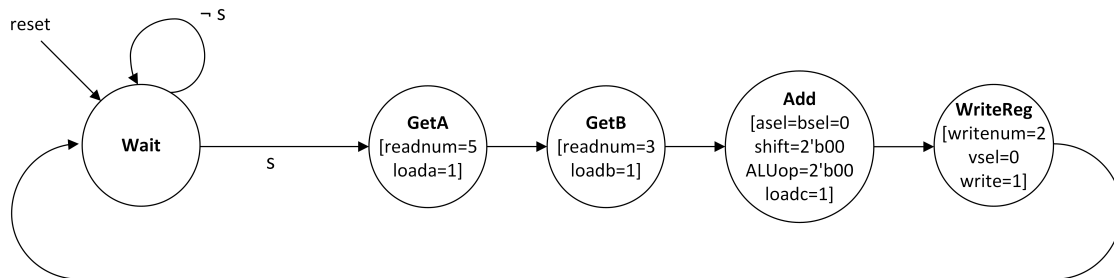
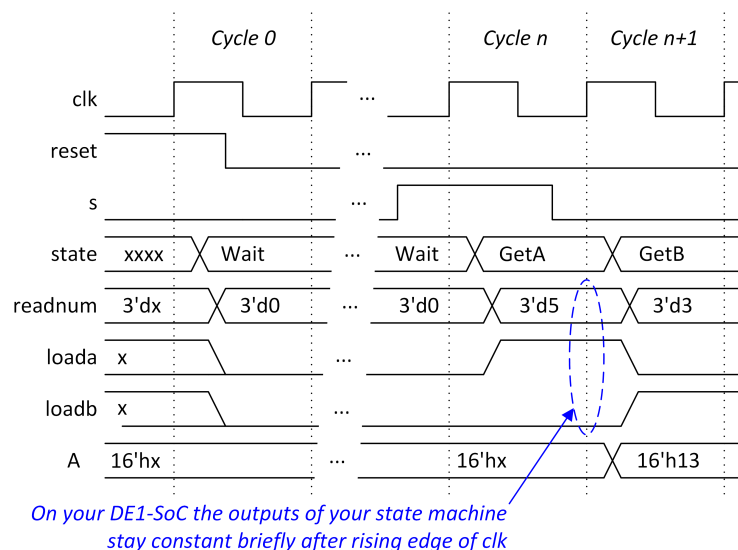
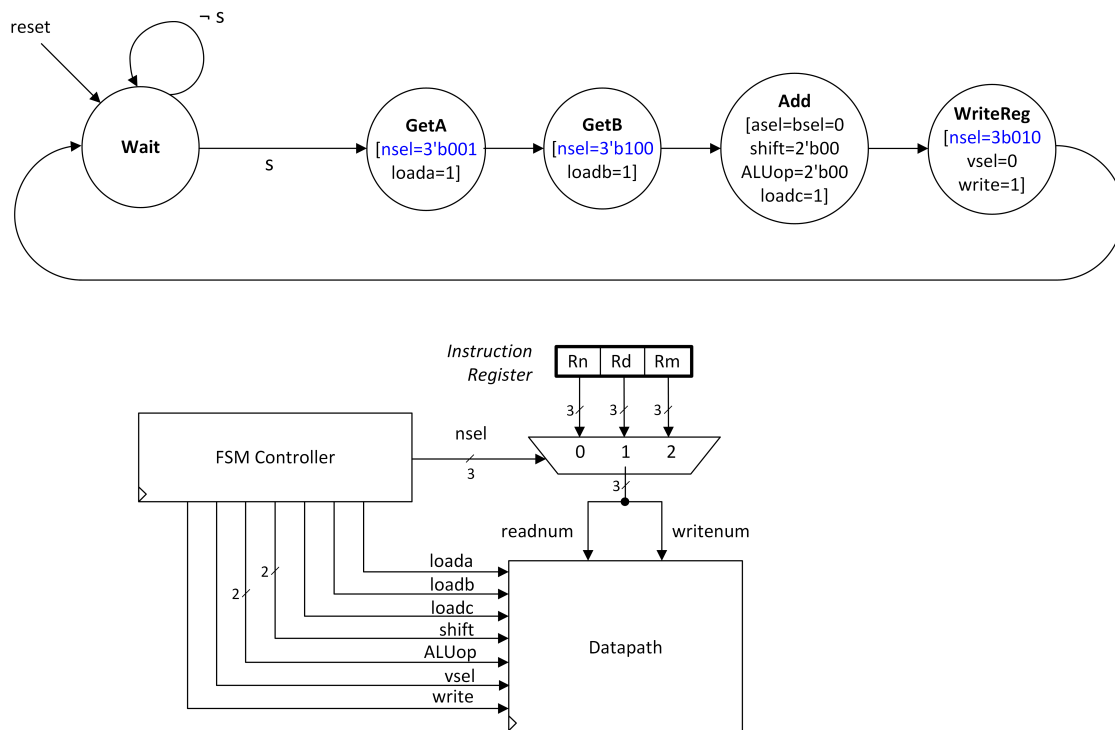

Figure 1: Finite state machine for “ADD R2, R5, R3” (do not build).
Figure 2: Register A updated on same rising edge of  $clk$  that state changes from *GetA* to *GetB*.
Figure 3: A partial instruction register (do NOT build).
To execute “ADD R2, R5, R3” on the datapath in Lab 5 requires four clock cycles and manually setting the control inputs. A faster way to set the control inputs is using a finite state machine. Figure 1 illustrates a **preliminary** state machine design for implementing “ADD R2, R5, R3”. The inputs to the state machine are *reset*, *s* and the clock (not shown). The outputs of the FSM are inputs to the Lab 5 datapath. In Figure 1 any datapath input not shown as an output of a given state is 0 in that state. For example, when in state *GetA* the datapath input *loadc* is assumed to be 0 even though it is not explicitly shown inside the circle representing state *GetA*. Later, in Section 4.2, you will design your own state machine. When you do, remember you need to set all outputs in every state (including zero and don’t care outputs).
In Figure 1, after reset the state machine waits for a start signal *s* in state *Wait*. Here a value of 1 on
Figure 2 illustrates the timing of a circuit combining the controller in Figure 1 with the data path from Lab 5 would behave assuming R5 initially contains 16'h13. ModelSim performs **functional simulation** in which the output of flip-flops and combinational logic occur after an infinitesimally small (but non-zero) delay so that values will appear to change right at the rising edge of  $clk$ . To understand Figure 2 it is important to remember the output of flip-flops and combinational logic in a real circuit do not actually change instantly after the rising edge of the clock in a real circuit.
In detail the behavior in Figure 2 is as follows: When in *state* *Wait* and  $s$  is 1, the rising edge of  $clk$  at the start of *Cycle n* causes *state* to change to *GetA*. The change in *state* causes *readnum* to be set to 5 (shown as “3'd5”) and *loada* is set to 1. At the next rising edge of the clock, between *Cycle n* and *Cycle n+1*, the contents of register R5 are copied to Register A and simultaneously *state* changes to *GetB*. The *state* change to *GetB* causes *readnum* to change from 5 to 3. If you were to look at this waveform in ModelSim the slight delays in the change of *state*, *readnum*, *loada*, *loadb* and A after the rising edge of  $clk$  would not be shown. The lack of such a delay in ModelSim waveforms leads some students to worry that *readnum* changing at this rising edge could cause the contents of R3 to get copied into Register A (instead of R5). Provided you have written Verilog that follows the synthesis rules taught in class, this incorrect behavior will not happen in the real circuit or your ModelSim simulations for two reasons: First, the flip-flops inside of register A start to copy their D input to their Q output at the rising edge of  $clk$  between *Cycle n* and *Cycle n+1*. Due to circuit delays, we do not see the output of register A change until some time after the rising edge but the copying started at the rising edge. Second, again reflecting how the real circuit operates the flip-flop outputs connected to *state* change slightly after the rising edge of  $clk$  and the state machine outputs *readnum*, *loada* and *loadb* change slightly after the change in *state* due to the delay of combinational logic. Thus, *loada* and *readnum* are still equal to 1 and 5 when the update of register A starts so the contents of R5 are (correctly) copied to A **before** the change in *readnum* during *Cycle n+1* can cause a problem.
What if we want to be able to use different registers besides R2, R5, and R3 while performing addition? We can introduce some *programmability* by adding an *instruction register*. Figure 3 illustrates the datapath from Lab 5 combined with a state machine and instruction register. In this figure, the block labeled “Instruction
Register” contains three 3-bit fields: Rd, Rn and Rm. Each 3-bit field is used to specify the name of one of the eight registers inside the register file inside the datapath. The block labeled “FSM Controller” implements the (revised) state machine illustrated at the top of Figure 3. This state machine uses the datapath and instruction register to implement “ADD Rd, Rn, Rm”. For example, to execute “ADD R2, R5, R3” we would set Rd=3'b010, Rn=3'b101, and Rm=3'b011.
Compared with Figure 1 the output of the states for the state machine in Figure 3 have been modified. Instead of directly specifying constant values for *readnum* and *writenum* the state machine now has an output called “*nselect*”. The signal *nselect* is used as the select input of a three input multiplexer. This multiplexer selects which of the 3-bit values Rd, Rn or Rm inside “Instruction Register” should be driven to *readnum* and *writenum* (we used the same multiplexer for *readnum* and *writenum* as at any given time we are either reading or writing).
**How should you design your state machine?** The examples shown in Figure 3 and 4 used a Moore type finite state machine where the output depends only on the current state. You can do the same or, if you want, use a Mealy state machine.
Lab 5 to perform the steps listed in the “Operation” column. One way to do this is by referring to Figure 1 in the Lab 5 handout. Work out the number of clock cycles it takes to perform the data operations required for the instruction. Each cycle will require an additional state beyond the “Wait” state shown in the example in Figure 3. After the last state required to execute the instruction on your datapath, your state machine should return to the “Wait” state as shown in the example in Figure 3. In the “Wait” state make sure your **w** output is 1 so the autograder (or your own test bench) knows the computer has finished executing the instruction and is ready to execute a new instruction.